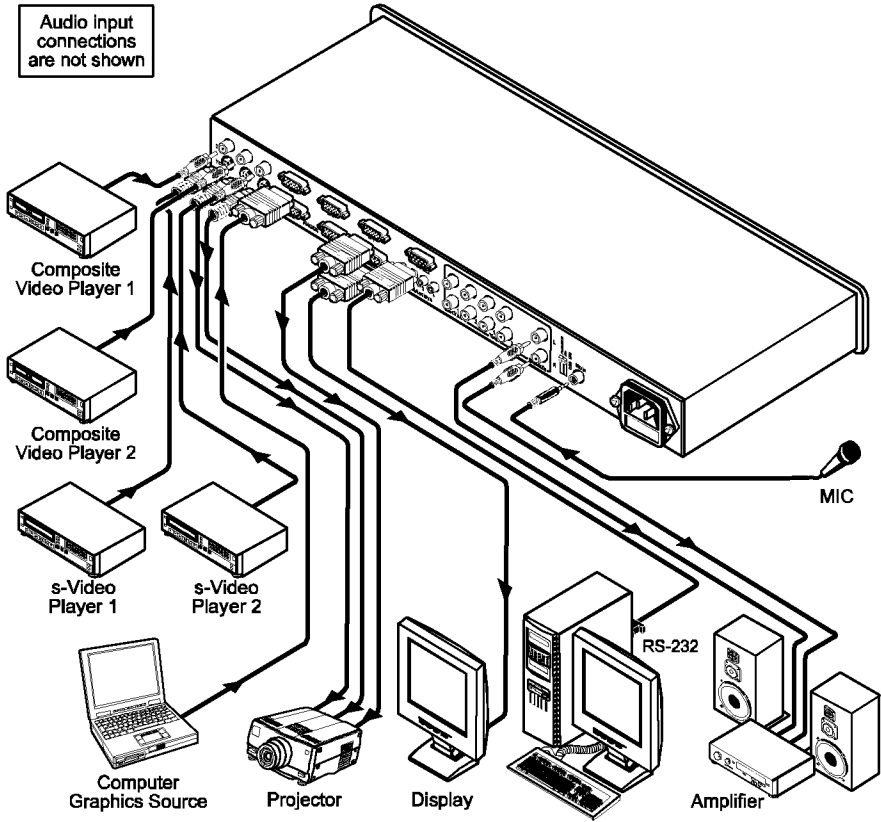

Figure 2: Connecting the VP-23DS Presentation Switcher / Scaler
In Figure 2, the audio input connections are not shown, except for the microphone and the MASTER AUDIO OUT. In this example, all the outputs are connected to the same projector. Use the projector controller to switch between the **VP-23DS** video outputs¹.
To connect² the **VP-23DS**, as illustrated in the example in Figure 2, do the following³:
4. Connect the appropriate unbalanced stereo audio sources (not shown in Figure 2).
8. Connect the power cord (not shown in Figure 2).